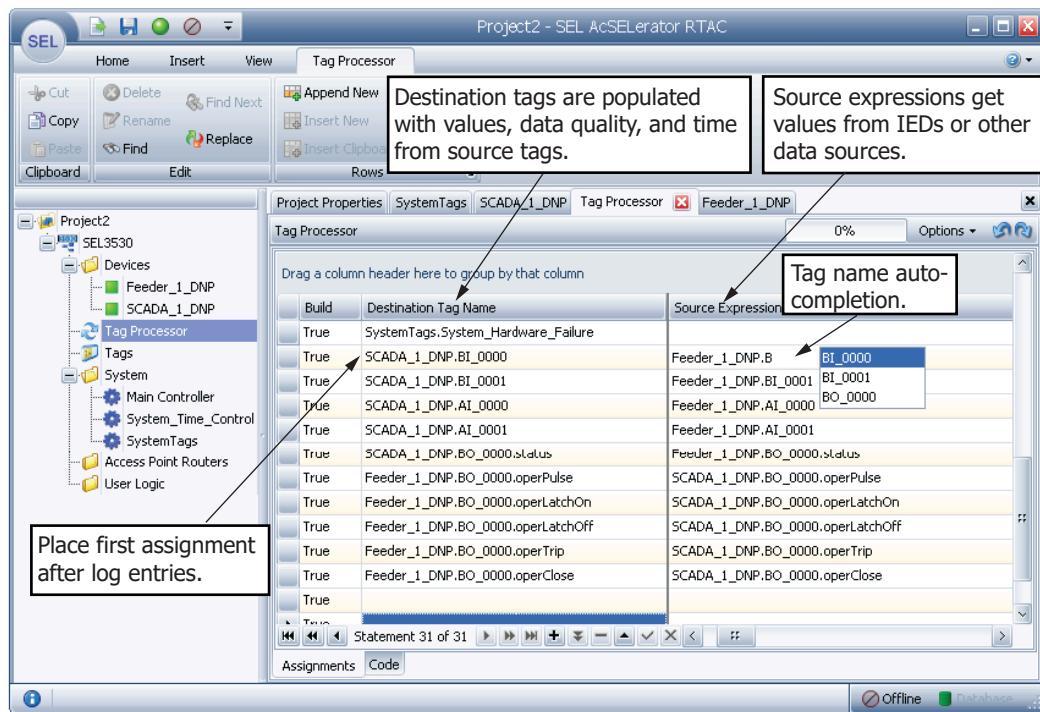

Figure 3.5 Simple Tag Mapping
Step 10. Populate the **Destination Tag Name** column starting on the first available row after the analog inputs with the binary output status from SCADA_1. See *Figure 3.5*.
Step 11. Finish populating the destination column with the BO structure from Feeder_1, as in *Figure 3.5*.
Step 12. Populate the Source Expression columns with Feeder_1 inputs and outputs as in *Figure 3.5*.